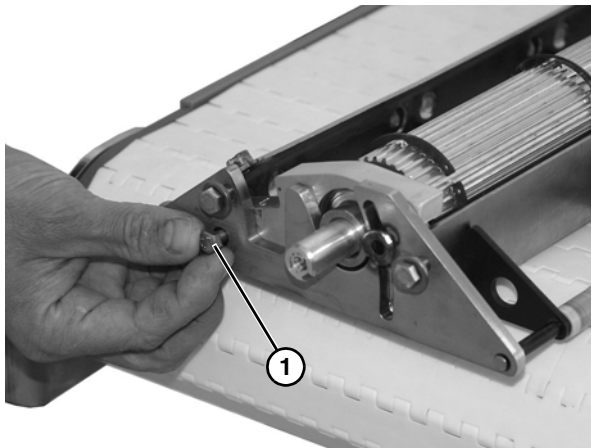

Figure 36
3. Remove screw (Figure 36, item 1). Repeat on opposite side.